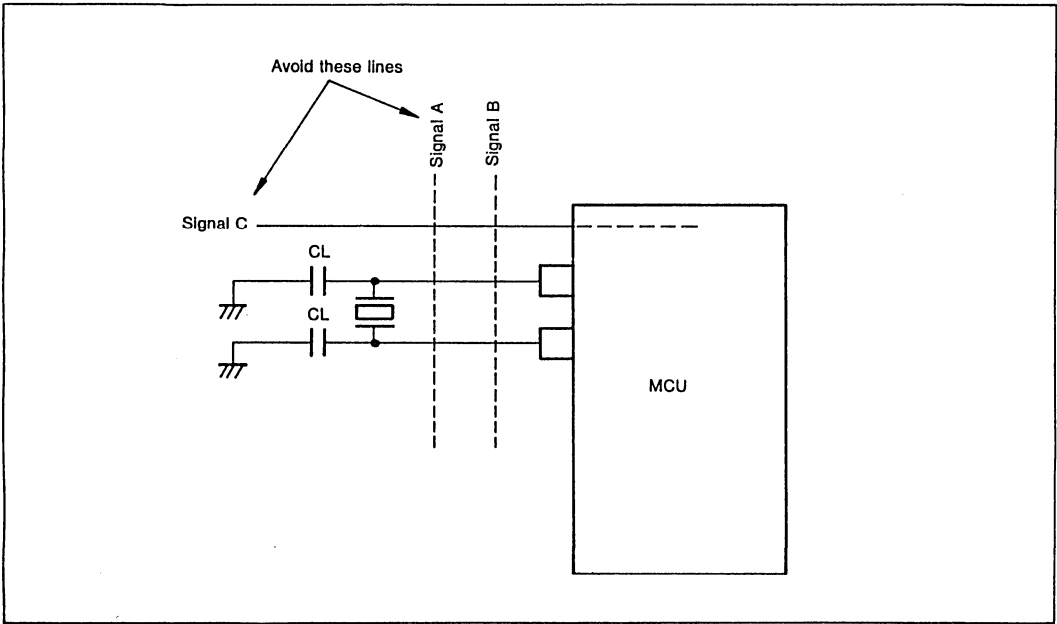

Figure 8-22. Oscillation Circuit Precautions
Keep the following rules in mind when designing the circuit to connect the crystal resonator with the XTAL and EXTAL pins (figure 8-22, 8-23).
3. Do not allow signal or power lines to cross or run closely parallel to the oscillator lines (signals A, B, C in figure 8-22). They will disturb normal oscillation. Keep the resistance between XTAL and EXTAL pins and the next nearest pins greater than 10 MΩ.